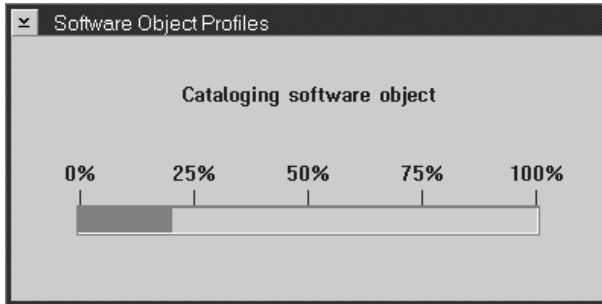

Figure 93. Software object profiles progress indicator
- 25** A progress indicator is displayed, as shown in Figure 93 on page 180.